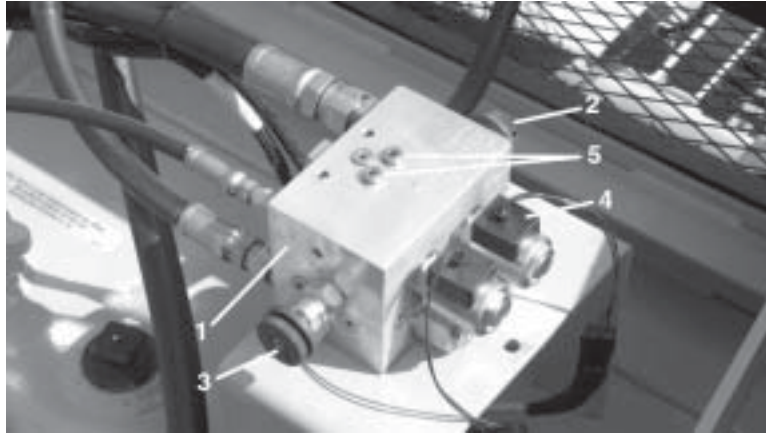

Figure 7
- * Bad or contaminated load sense check valves can cause erratic stand-by pressures. (see figure 7 & 8 to identify location of load check valves).